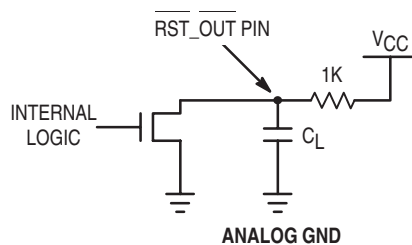

Figure 3. RST\_OUT Test Circuit
- The  $\overline{RST\_OUT}$  pin is an open drain N-Channel output. Therefore an external pull-up resistor must be provided to pull up the  $\overline{RST\_OUT}$  pin when it goes into the high impedance state (after the MC88LV926 is phase-locked to the reference input with  $RST\_IN$  held high or 1024 'Q' cycles after the  $RST\_IN$  pin goes high when the part is locked). In the  $t_{pLZ}$  and  $t_{pZL}$  specifications, a 1K $\Omega$  resistor is used as a pull-up as shown in Figure 3.